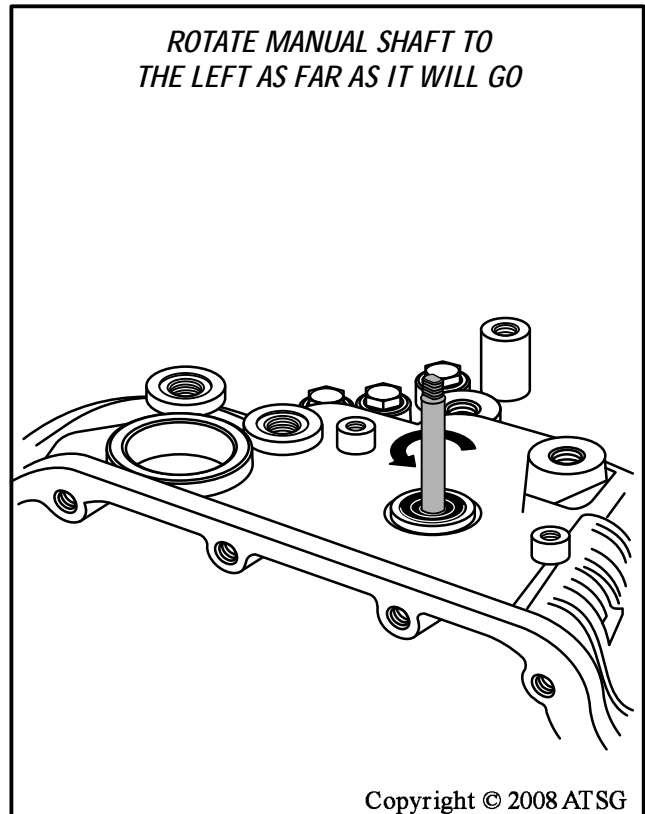

Figure 231
43. Place the transaxle in Manual Low position by rotating the manual shaft all the way to the left, as shown in Figure 231.